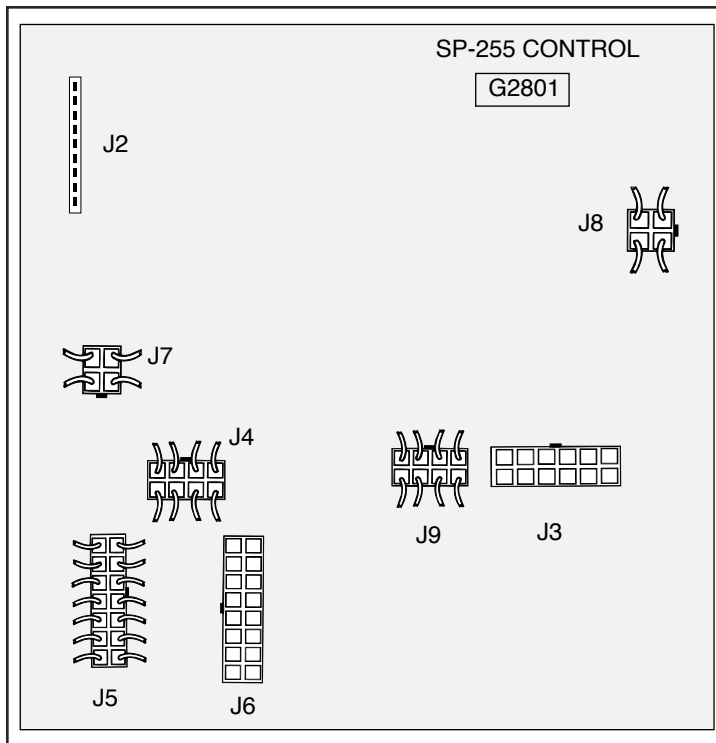

FIGURE F.2 - Remove Plugs J3 and J6 to Perform Static SCR Rectifier Assembly Test.
2. Disconnect Plugs J3 and J6 from the G2801 Control Board. This electrically isolates the SCR bridge assembly. See Figures F.2.